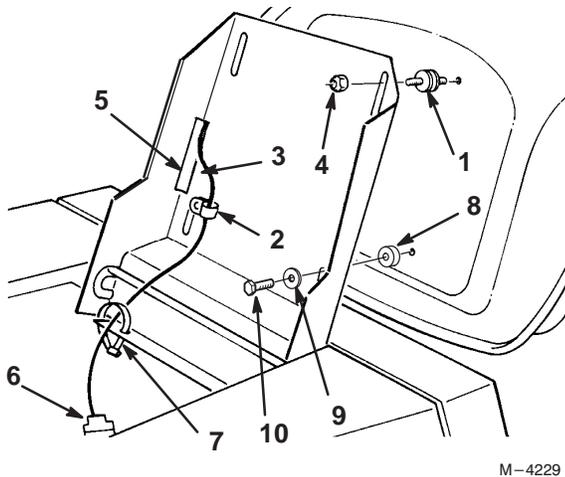

Figure 3
1. Thread 2 seat spacers (rubber) into bottom of seat (Fig. 3) in rear holes.
2. Position seat onto seat base, inserting seat switch cable thru slot and spacer studs through the rear mounting holes (Fig. 3). Secure loosely with two 5/16" locknuts.
3. Slide wire clamp over seat switch wire (Fig. 3).
4. Install 2 metal spacers in line with the front holes. Insert a 5/16" x 1 1/2" (38 mm) screw through the wire clamp and a 5/16" flat washer. Insert this screw through the seat bracket and spacer into the left front seat hole (Fig. 3). Install another 5/16" x 1 1/2" (38 mm) screw with a flat washer into the right front seat hole.